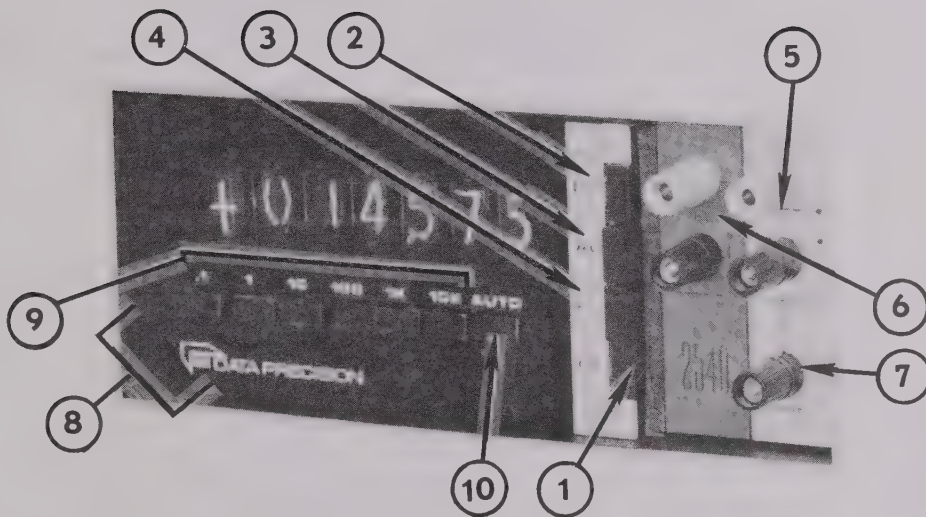
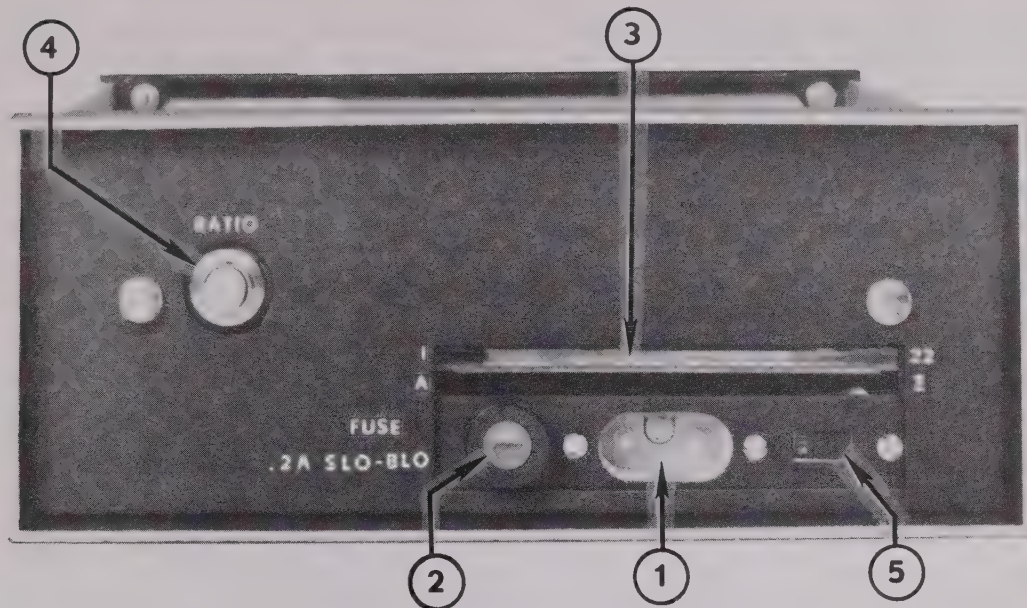

Figure 2-1. MODEL 2500 DMM Front Panel Controls and Indicators
Figure 2-2. SERIES 2000 DMM Rear Panel Controls and Indicators
The front panel controls and indicators are identified in Figure 2-1 and the functions described in Table 2-1. The rear panel controls are identified in Figure 2-2 and described in Table 2-2.
1. Press RATIO push button at Rear Panel (Figure 2-2). Observe corresponding lamp lighted on front panel.